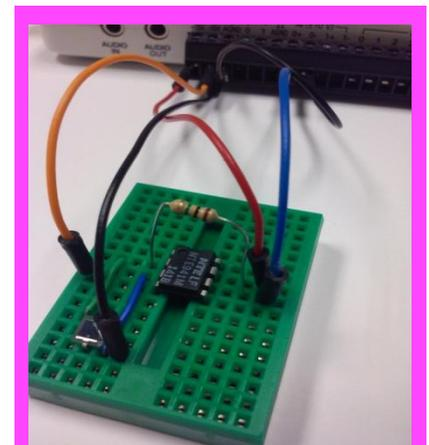

Figure 3 Photodiode amplifier
Step 3: Connect the outputs of both photodiode amplifier circuits to your myDAQ AI0 and AI1 (see Figure 3 for reference). Open the Theremin demo for myDAQ.vi found in the Photodiode directory. The demo uses AI0 to control gain and AI1 to control frequency.